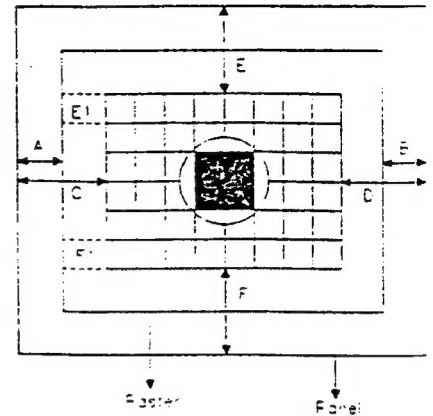

Figure 7
2. Adjust VR04 let A-B = 0 ± 1 mm (See Fig 7) for rater center.
(5) DYNAMIC FOCUS CHECK
3. Press and rotate the Encoder to adjust Vertical center ≤ 2 mm. (See Fig 7, $|E-F| \leq 2$ mm)
3. Press and rotate the Encoder to adjust Horizontal center ≤ 2 mm. (See Fig 7, $|C-D| \leq 2$ mm)
(10) PINCUSHION ADJUSTMENT